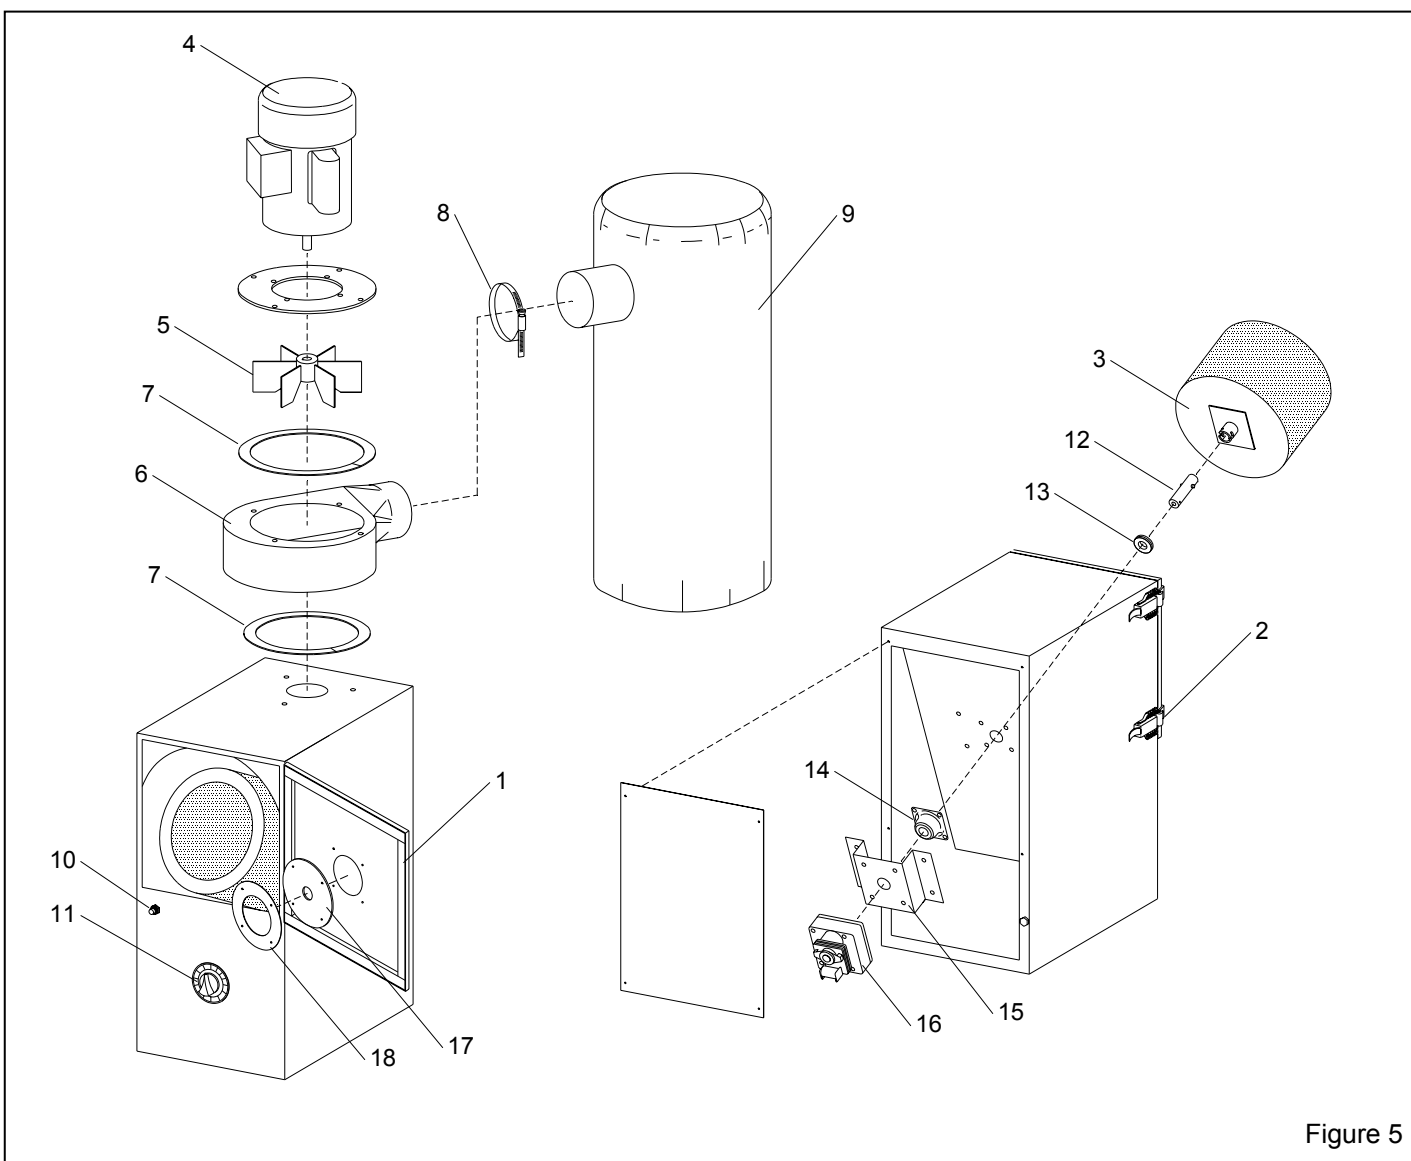

Figure 5
**7.2 Cabinet and barrel Assembly, Figure 5**